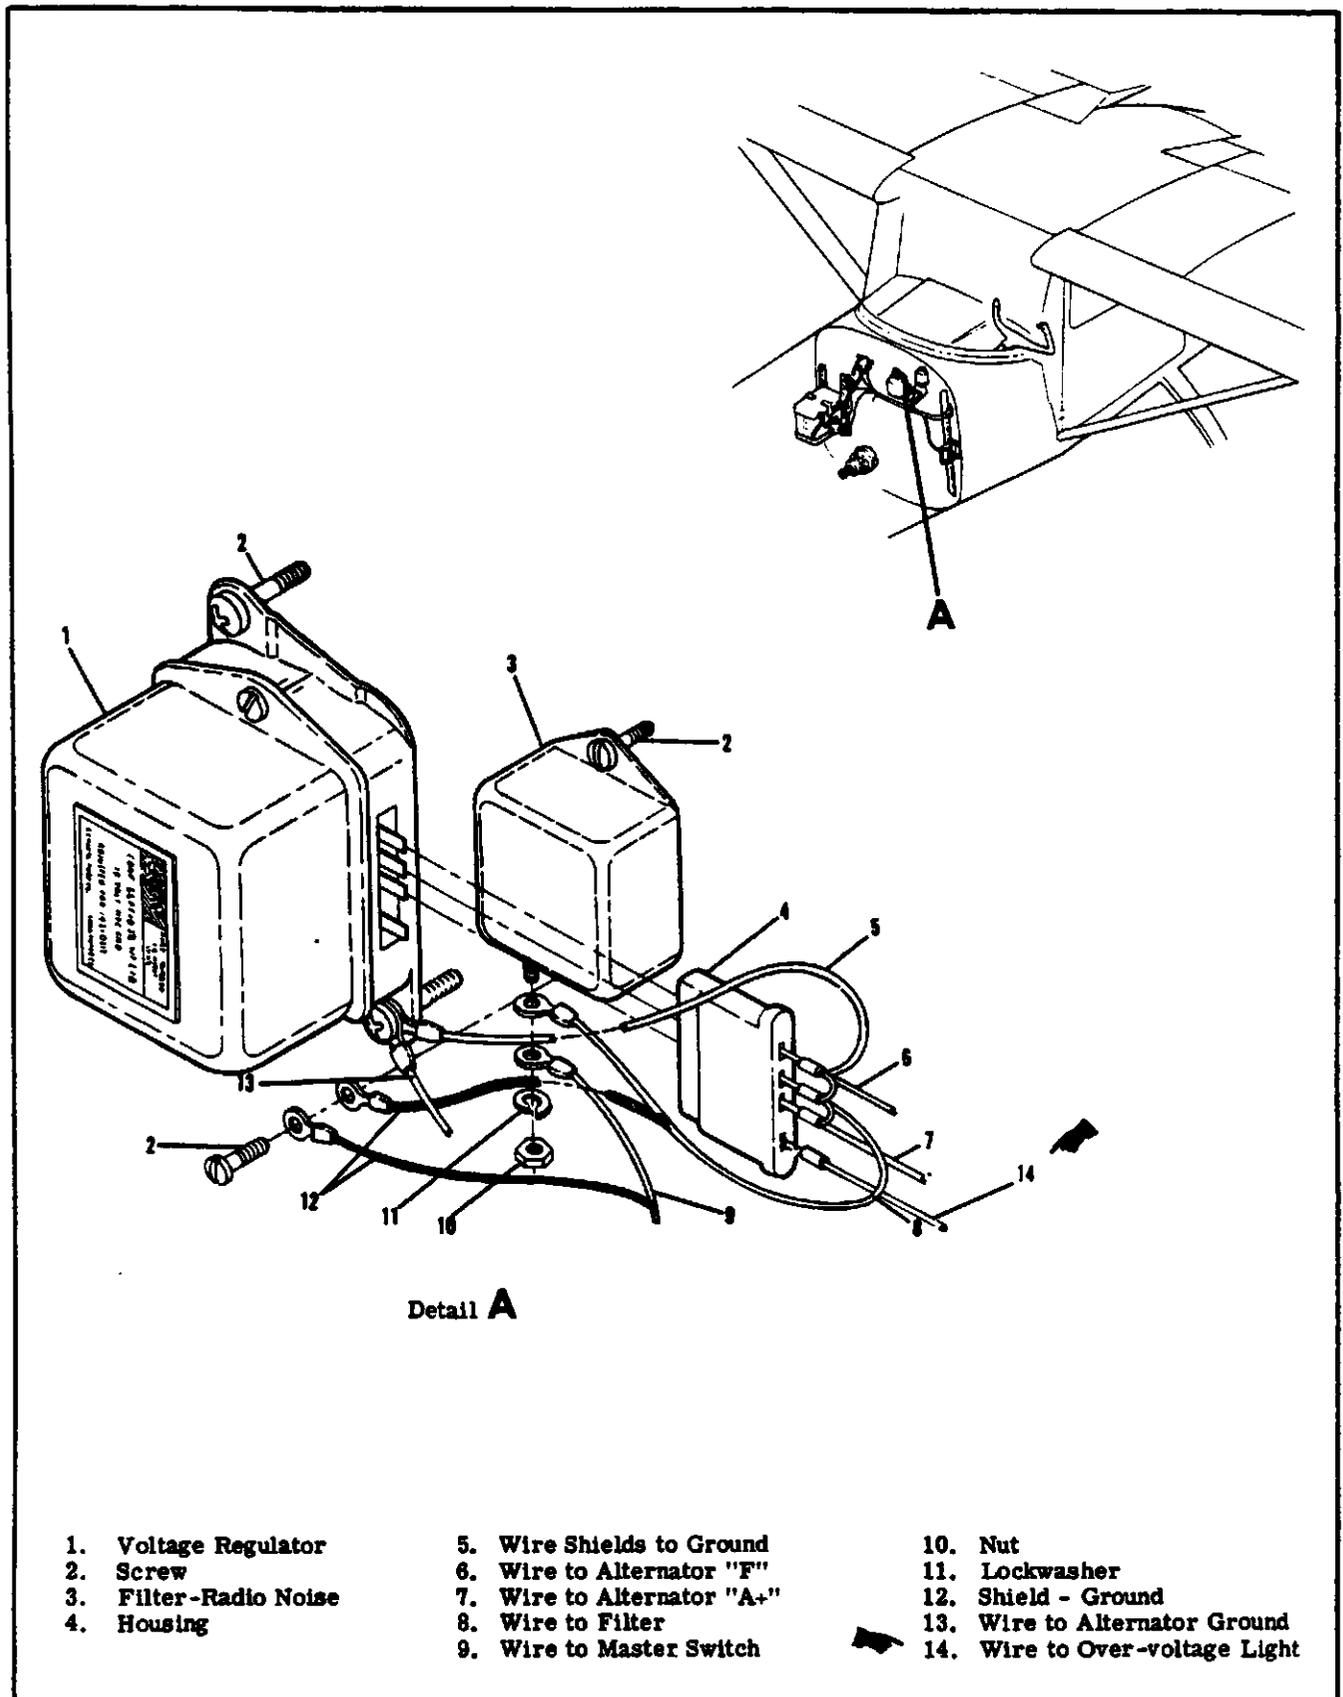

Figure 16-4. Voltage Regulator Installation
- 16-41. REMOVAL AND INSTALLATION (Refer to figure 16-4).